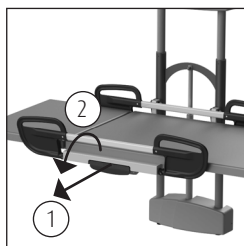
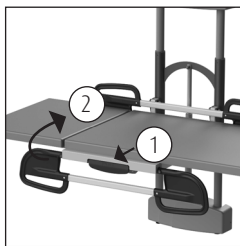
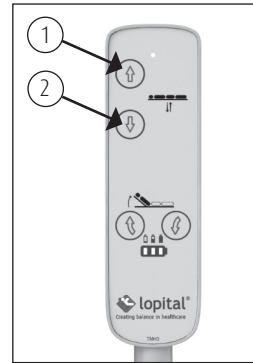

Figure 1 Side rail
Figure 2 Side rail down
Figure 3 Hand control.
- The side rail is equipped with safeguards so that the client cannot raise the side rails themselves (See figure 1).
- Unlock the safeguard by using one hand to pull the protruding handle (1) and rotating the side rail with your other hand (2).
- Turn the side rail upwards again to close the side rail. The side rail locks automatically (See figure 2).
- The side rail can be placed in 2 positions, wide and narrow. When you fold the side rail upwards, the side rail is first locked in the wide position (See figure 3). By pulling the handle of the lock (See figure 2) you can move the side rail further back to its narrow position.
- Move the Vienna deluxe upwards by pressing the button that shows an 'up' arrow. The Vienna deluxe will then immediately move upwards (1) (See figure 3).
- Move the Vienna deluxe downwards by pressing the button that shows a 'down' arrow the dressing table will immediately move downwards (2) (See figure 3).